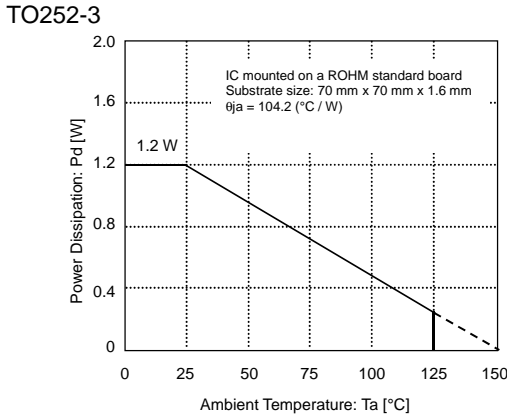

Figure 20
Refer to the heat mitigation characteristics illustrated in Figure 20, 21 and 22 when using the IC in an environment where $T_a \geq 25^\circ\text{C}$. The characteristics of the IC are greatly influenced by the operating temperature. If the temperature is in excess of the maximum junction temperature T_{jmax} , the elements of the IC may be deteriorated or be damaged. It is necessary to give sufficient consideration to the heat of the IC in view of two points, i.e., the protection of the IC from instantaneous damage and the maintenance of the reliability of the IC in long-time operation.
In order to protect the IC from thermal destruction, it is necessary to operate the IC in temperatures not exceeding the maximum junction temperature T_{jmax} . Figure 20 illustrates the power dissipation/heat mitigation characteristics for the TO252-3 package. Operate the IC within the power dissipation (P_d) capabilities. The following method is used to calculate the power consumption P_C (W).